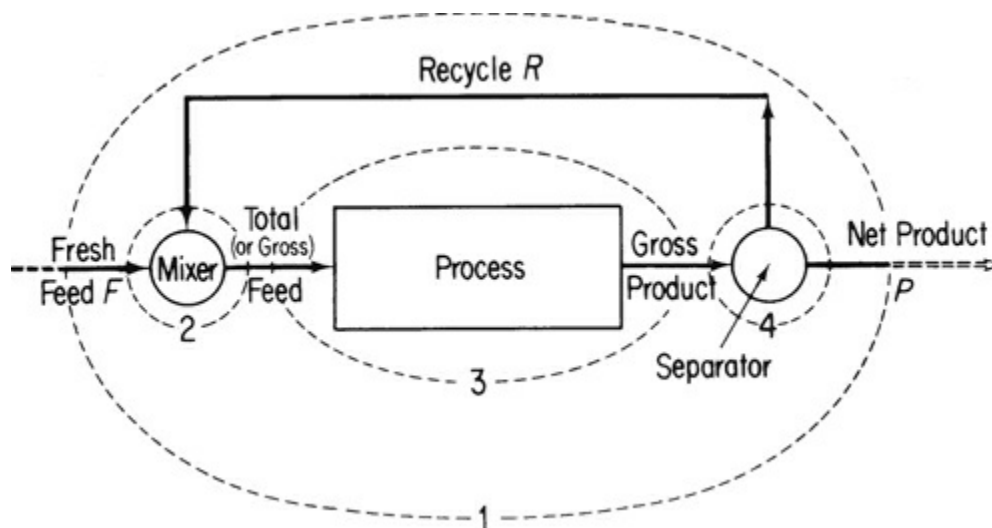

Figure 5.6 Process with recycle. The numbers and dashed lines designate possible system boundaries for the material balances; see the text.
You can formulate material balances for recycle systems without reaction using the same strategy explained in Chapter 3 and applied in subsequent chapters. Examine Figure 5.6.
The main new aspect of solving problems involving recycle is picking the proper sequence of systems to analyze. You can write material balances for several different systems, four of which are shown by dashed lines in Figure 5.6, namely:
1. About the entire process including the recycle stream, as indicated by the dashed boundary identified by 1 in Figure 5.6. Such balances contain no information about the recycle stream. Note that the **fresh feed** enters the overall system, and the **overall** or **net product** is removed and can be used to determine the extent of reaction when the process under consideration is a reactor and the reactions are known. You can also employ element balances, as explained in Chapter 4.
2. About the junction point at which the fresh feed is combined with the recycle stream (identified by 2 in Figure 5.6).
3. About the process itself (identified by 3 in Figure 5.6). Note that the **process feed** enters the process and the **gross product** is removed.
4. About the separator at which the gross product is separated into recycle and overall (net) product (identified by 4 in Figure 5.6).
Note that in Figure 5.6, the recycle stream is associated both with the mixer, which is located at the beginning of the process, and with the separator, which is located at the end of the process. As a result, recycle problems lead to coupled equations that have to be solved simultaneously. You will find that overall material balances (1 in Figure 5.6), particularly with a tie component, are usually a good place to start when solving recycle problems. If you solve an overall material balance(s) successfully, that is, you are able to calculate all or some of the unknowns by using the overall balance, the rest of the problem can usually be solved by